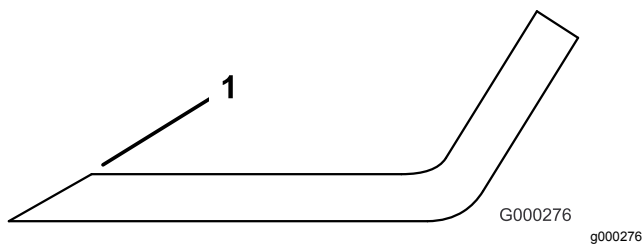

Figure 32
3. Examine the cutting edges of all blades. Sharpen the cutting edges if they are dull or nicked. Sharpen only the top side of the cutting edge and maintain the original cutting angle to ensure sharpness (Figure 32). The blade will remain balanced if the same amount of metal is removed from both cutting edges.